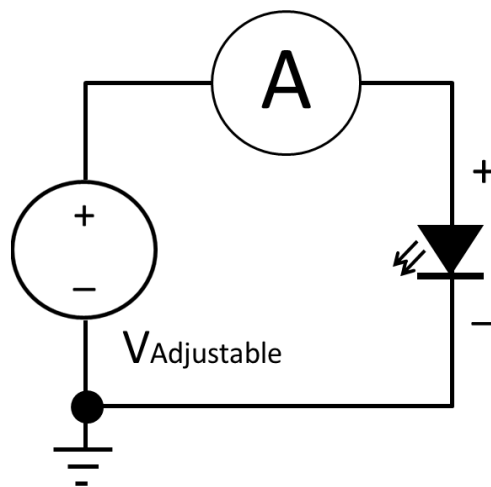

Figure 2: Measuring I-V characteristic of an LED
- d) Determine the maximum current and power that an LED can sustain before it burns out: To do this part of the lab, remove the resistor from your circuit and replace it with the ammeter as shown in **figure 2**. Now we will collect current and voltage data to make a graph of current vs. voltage (I-V curve). The burn out of the LED can usually be measured by looking at the I-V curve and observing when the slope (dI/dV) starts to decrease. The LED may still be lit but it is damaged once the power is exceeded. Recall you found the burnout power in the datasheet.